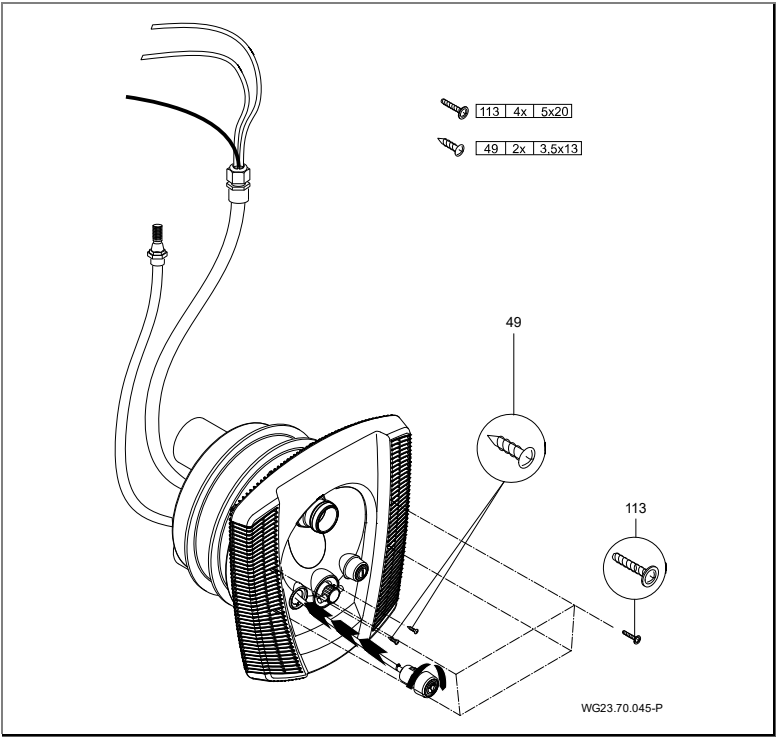

Fig. 18
7. Fasten the cover (93) to the nozzle housing with the four screws (113). Insert the two pneumatic buttons through the light cover (110) in the nozzle housing and lock by turning it clockwise. (Fig. 18)